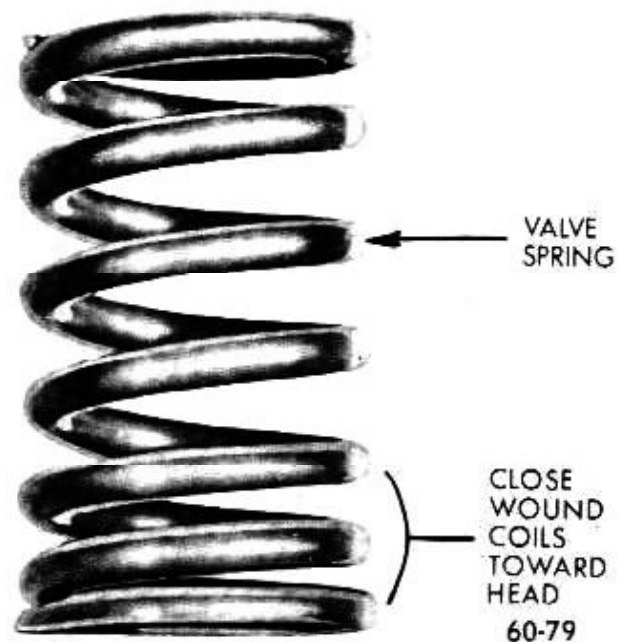

Figure 60-80 - Intake Valve Spring (350 cu.in.)
14. Install intake valve spring on the 350 Cu. In. with closely wound coil toward the cylinder head. See Figure 60-80.
NOTE: The top inside diameter of 350 cu.in. intake valve springs is .860" - .846" and the bottom inside diameter is .945" - .931". The large diameter must be toward the cylinder head. The exhaust valve spring on the 350 cu.in. and all valve springs for 455 cu.in. engines may be installed with either end up. See Figure 60-80.